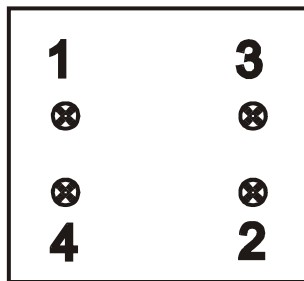

Figure 29. Magnetron Fastener Tightening Sequence (I300M)
6. Refer to Figure 29; hand tighten the magnetron fasteners in sequence as shown until snug. Then, tighten the fasteners ¼ turn in sequence. Finally, tighten the fasteners in sequence to 3.4 N-m (30 inch-lbs) using a torque-controlled driver.